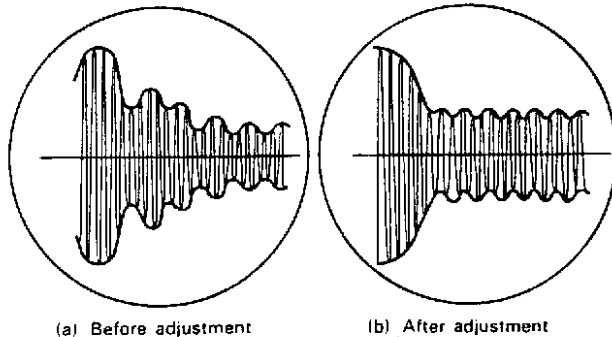

Fig. 27 Adjustment of noise blanker
- 2) Turn ON NB switch and connect the oscilloscope to the cathode side of D13 in IF unit. Adjust T1 in IF unit until the waveform changes from Figure A to Figure B (refer to Fig. 27).